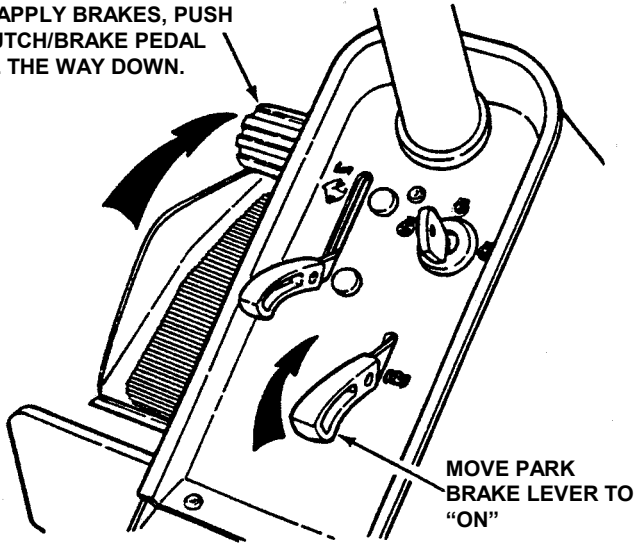

FIGURE 2.16
1. Engage park brake by pushing clutch/brake pedal "DOWN" and moving the park brake lever to the "ON" position. While holding the park brake lever "ON", release clutch/brake pedal to set park brake. See Figure 2.16.